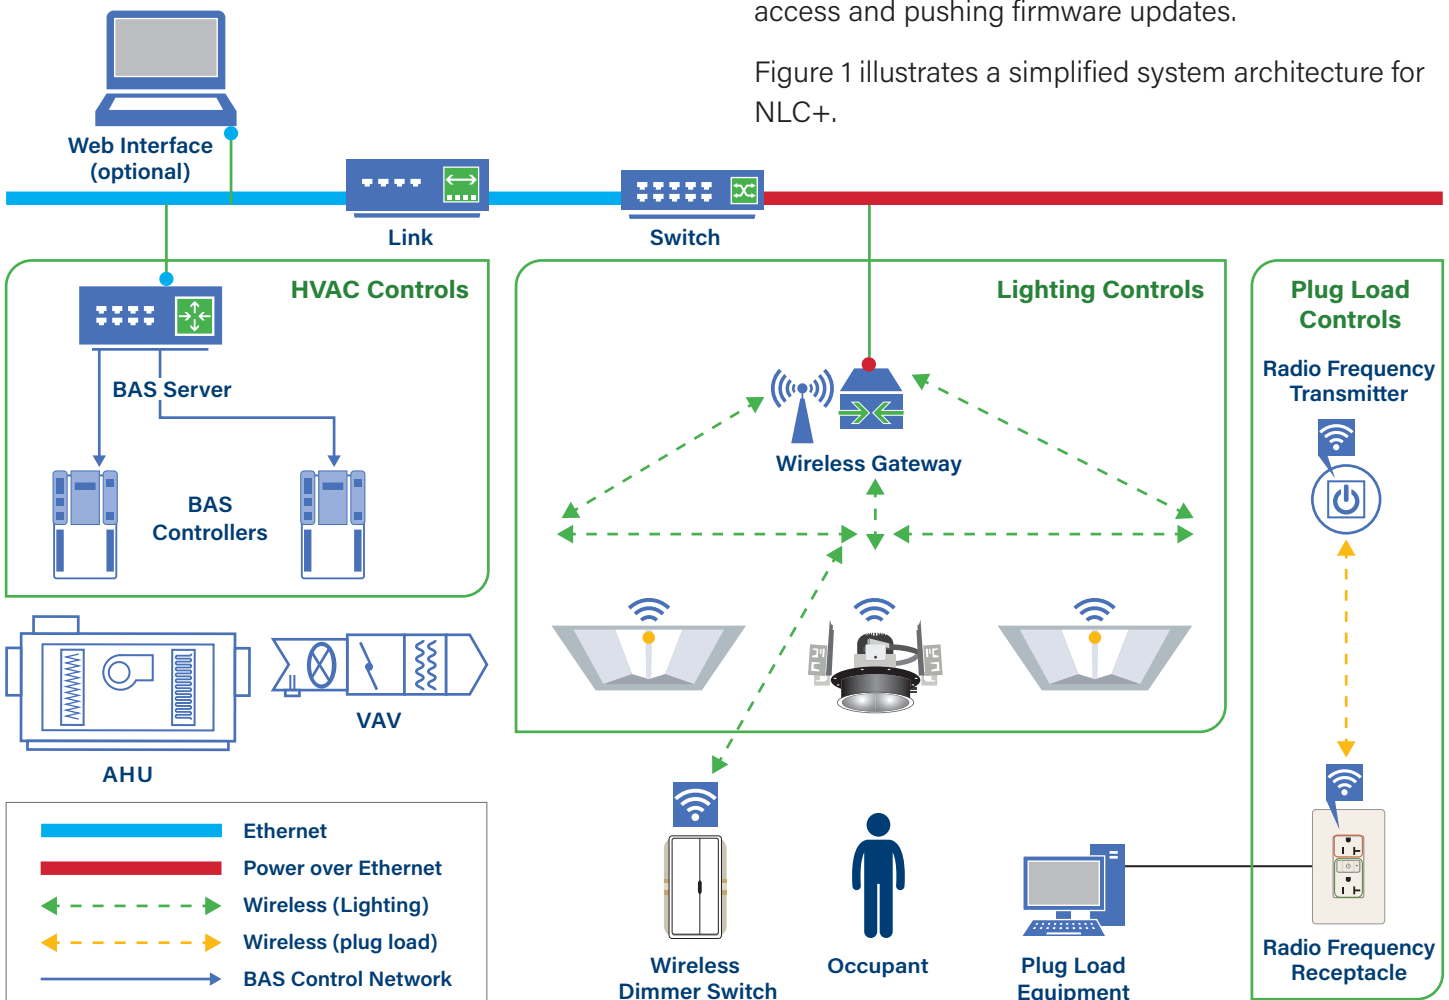

Figure 1: NLC+ system architecture.
Figure 1 illustrates a simplified system architecture for NLC+.
- Can all the luminaires in the retrofit be handled on one network or are multiple networks required? Typically, there are limitations on the number of devices that can be served by a given network and signals from wireless gateways degrade over large areas. The lighting manufacturer's sales representative should specify the required number of networks and the resulting number of wireless gateways, power over ethernet (PoE) switches, and any manufacturer-specific supervisory controllers (see Figure 1).